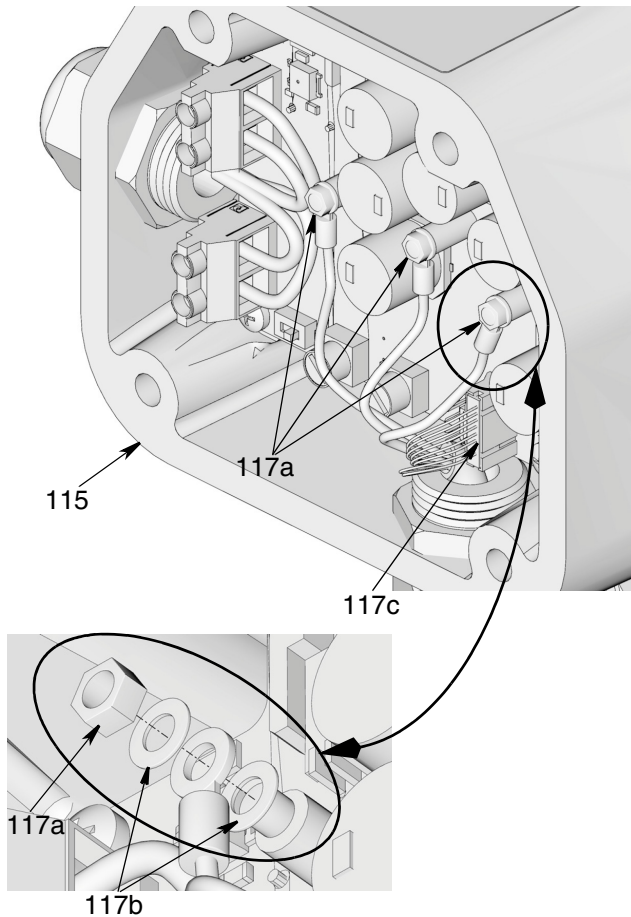

FIG. 59
5. Match green, yellow and blue wires to terminals of same color (written on the control board). Secure wires to terminals using washers and nuts (117a and 117b) (FIG. 59).
6. Connect sensor (117c) (FIG. 59).
7. Replace control board gasket (119) and cover (120) with screws (116) being careful not to pinch any
wires to terminals using washers and nuts (117a and 117b) (FIG. 59).